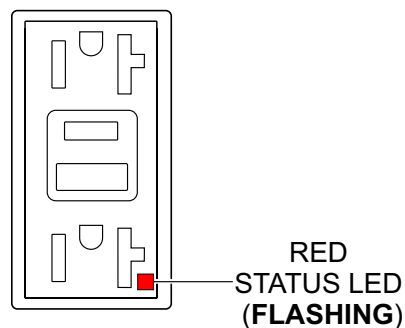

Figure 98. GFCI Receptacle (RED Flashing LED)
6. If the status LED (Figure 98) is **flashing (RED)**, **DO NOT** use the GFCI receptacle and replace it immediately.